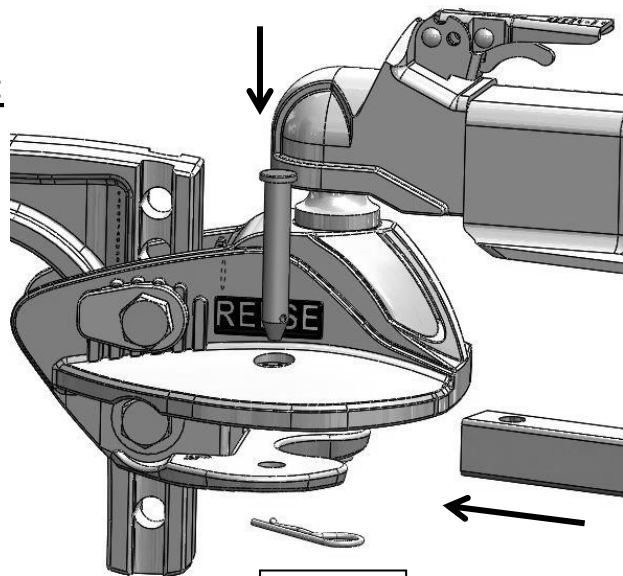

Fig. 11
23. Insert spring bars (label up) into ball mount and secure with clevis pin and spring clip (see Fig. 11).